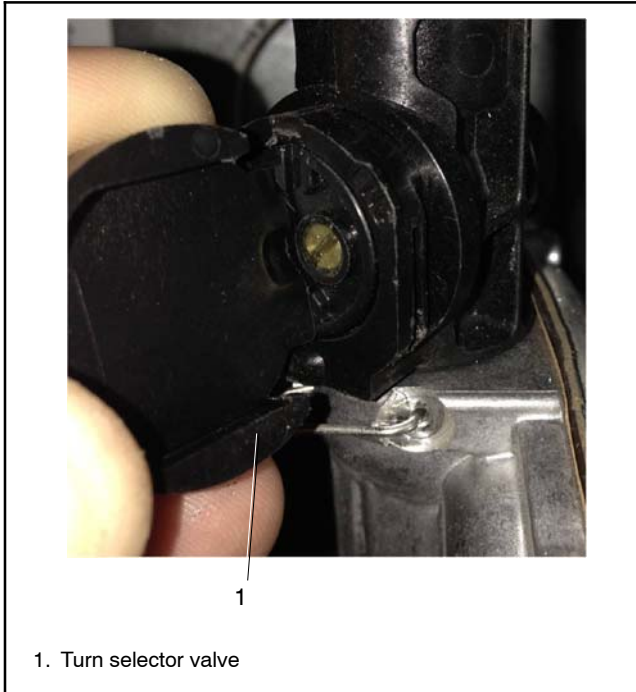
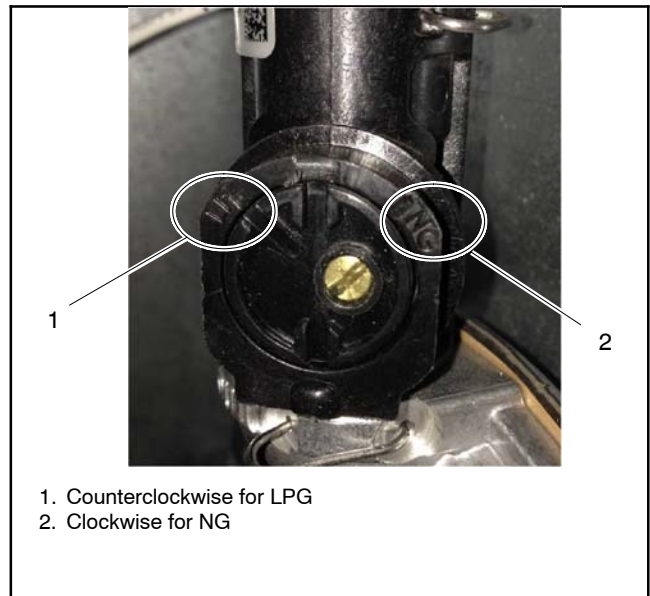

Figure 5-31 Fuel Selection
Figure 5-32 Valve Positions
Note: Do not adjust the factory-set adjustment screw on the selector valve. Adjusting the screw may violate federal and state laws. See Figure 5-32.
- See Figure 5-31. Use the cap in the orientation shown to turn the selector valve to NG or LPG. See Figure 5-32 for valve positions.